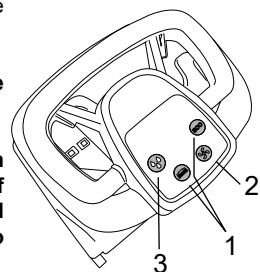

Fig. 17
- Press the brush button or the ECO button (fig. 17, ref. 1), in addition to activating the brush, this will also enable the vacuum function and the flow of detergent solution.
- When work is in progress, check the thoroughness of the wash and regulate the flow of detergent solution accordingly, with the relative button (fig. 17, ref. 3).
- Press the brush control button (fig. 17, ref. 1).
- Switch off the vacuum function by pressing the suction control button (fig. 17, ref. 2).